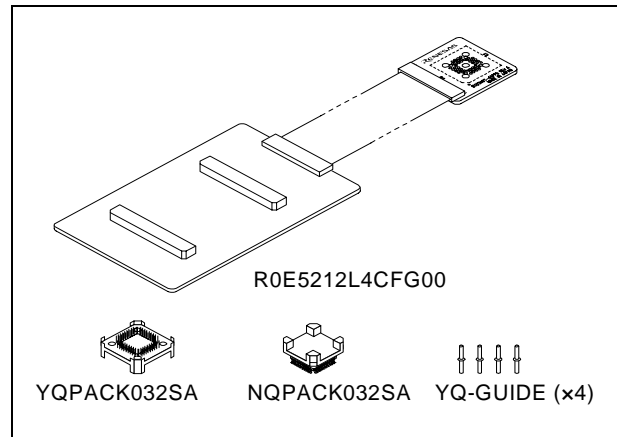

Figure 1 Package components of the R0E5212L4CFG00
2. Package Components (See Figure 1)